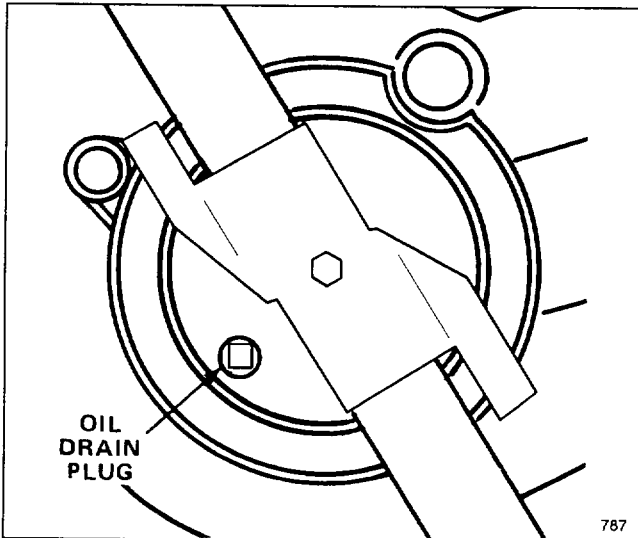

Figure 18
4. Remove drain plug (Fig. 18) from underside of mower using a  $\frac{3}{8}$ " female square drive.